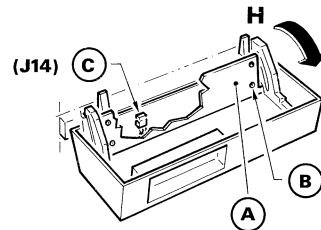

Figure 5.8
*Remove the carter A — Figure 5.8, by :